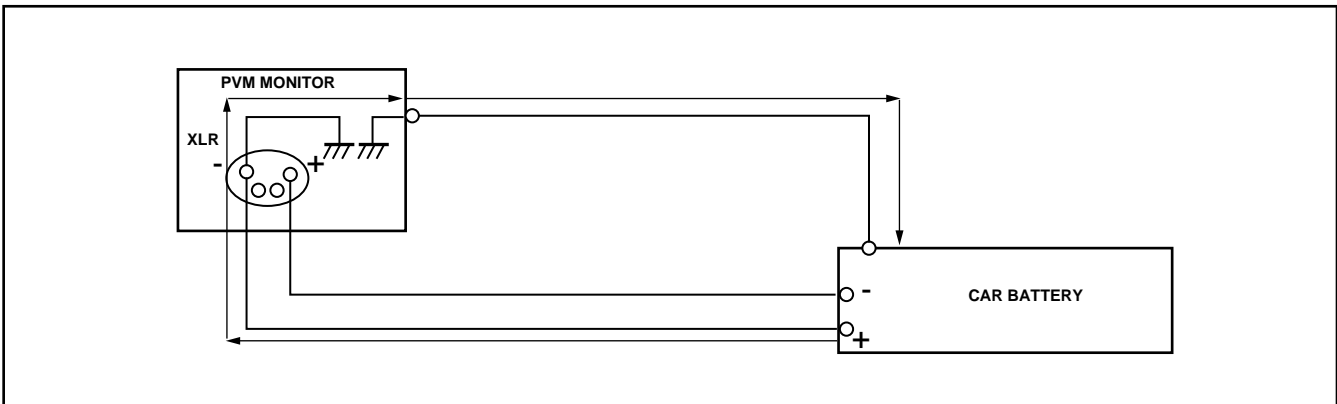

Figure 3
- PVM monitor is connected in reverse polarity to a car battery. See Figure 3.